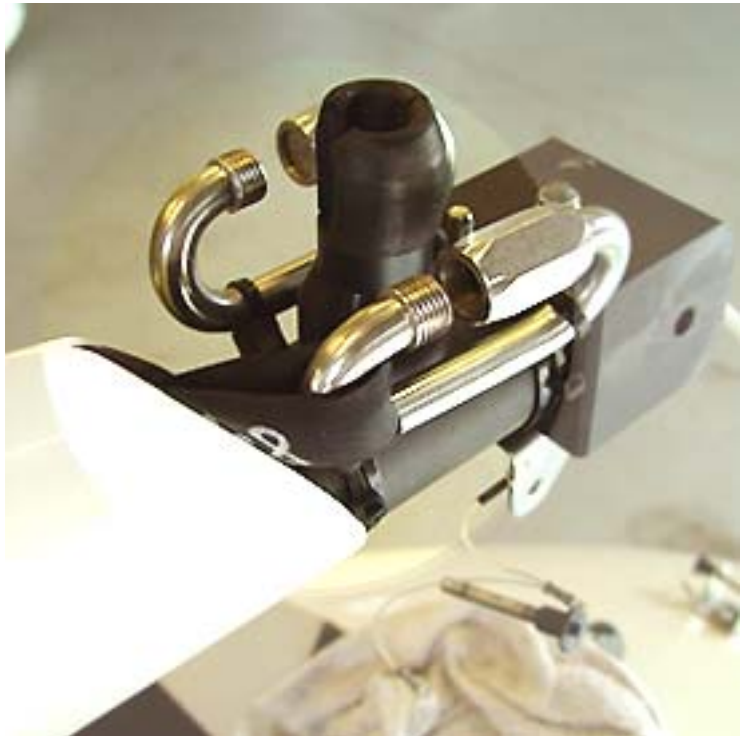

Figure 2-21
- 2.13 Connect the 84" Harness loop to the Link on the right hand side, as shown in Figure 2-21.